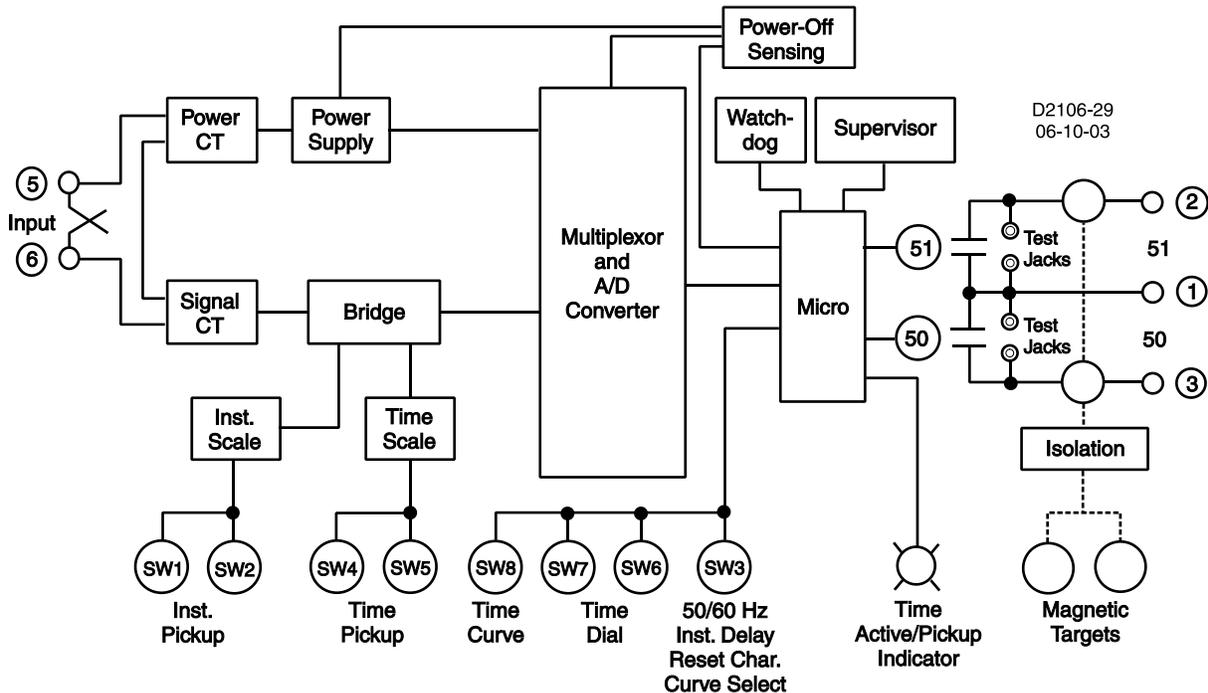

Figure 3-1. Function Block Diagram
Relay functional description is illustrated in Figure 3-1 and described in the following paragraphs.
Single-phase ac current from system current transformers (CT) is brought into the Overcurrent Relay at terminals 5 and 6. Refer to Figure 3-1 to follow the functional description. The input current is applied to internal power and signal CTs.